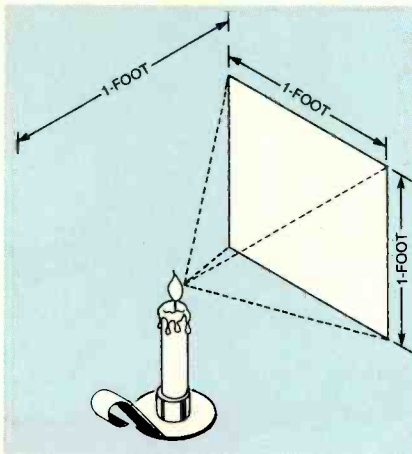

Fig. 1. A foot-candle is the amount of light that shines on a one-foot-square surface that is one foot away from a standard candle.
**"Light" Talk.** Like electricity and magnetism, light has its own set of definitions. The basic unit of light is the *candela*, which is equal to one lumen per steradian (a unit of solid angle). The lumen is a measure of optical power. In the English system, one lumen per square foot is the light intensity received by a one-square-foot target placed one foot away from a standard point-source candle. See Fig. 1. Another more common term for the lumen is *candlepower*, which is given in foot-candle units. As you can see, candelas, candlepower, and foot-candles equally share the same unit quantity: the lumen.